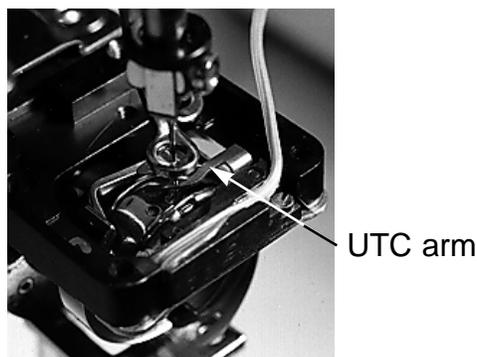

Figure 4-3
5. Gently move the UTC sensor arm shown in Figure 4-3. If the sensor is functional, it will beep. This is not a test for UTC adjustment.